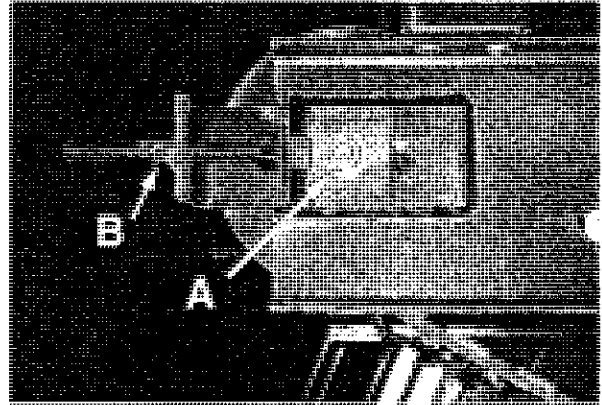

Figure 49. Truck Elevator Tension Adjustments
The truck elevator must be in the up position before adjusting the tension of the belted draper chain (Figure 49). Set the tension by loosening the bolts on the flange rollers (A), then adjust the bolts (B) to set the tension.